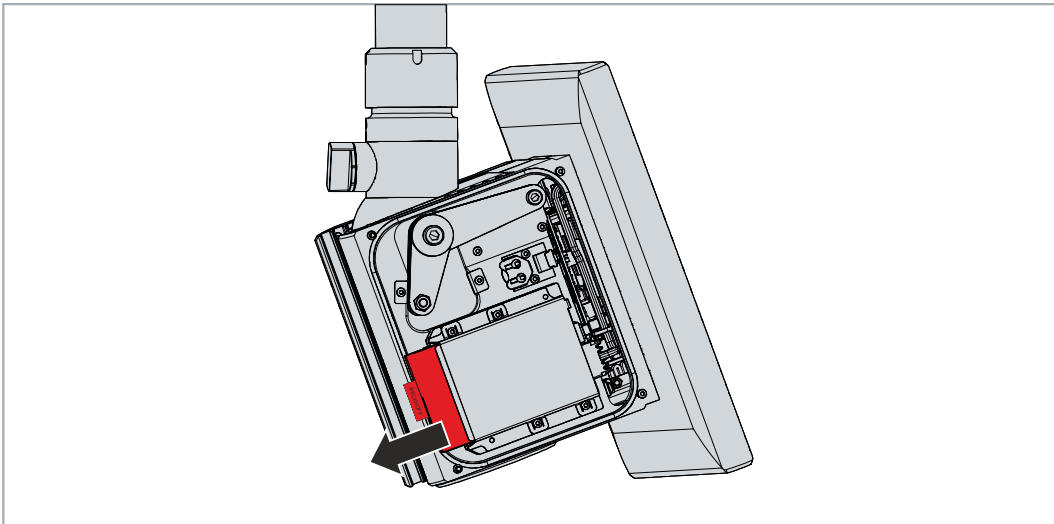

Fig. 29: Exchange hard disk/SSD
1. Pull the hard disk or SSD firmly out of the device using the protruding Beckhoff sticker (see Fig. 29).